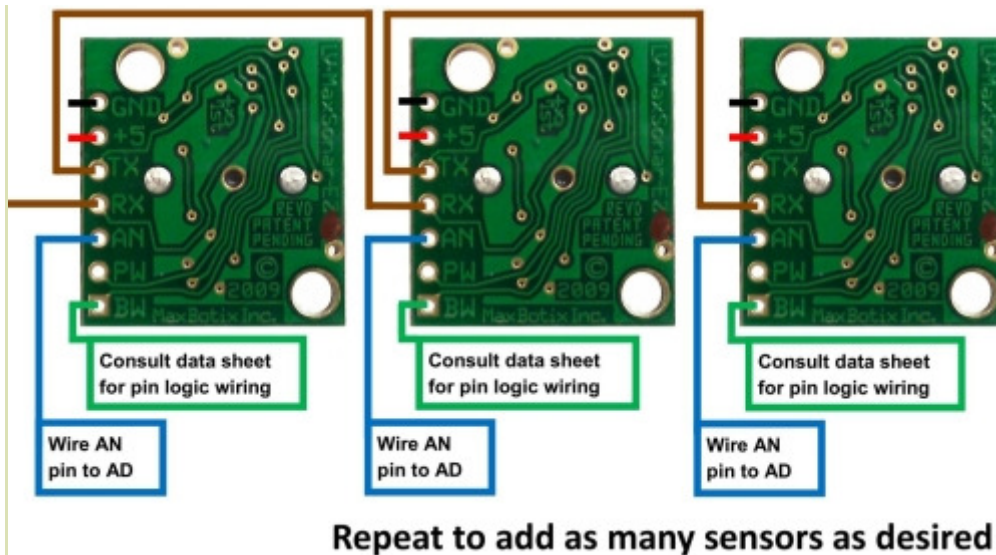

Figure 5 LV-MaxSonar-EZ and XL-MaxSonar-EZ/AE Diagram
To sequentially read each sensor, connect your triggering device to pin 4 (RX) of the first sensor, then connect pin 5 (TX) output of the first sensor to the RX pin of the next sensor that is to be ranged in sequence. Do this with however many sensors are to be used in the chain. To view a diagram of how each chaining diagram is wired view figures 5 through 8 below.